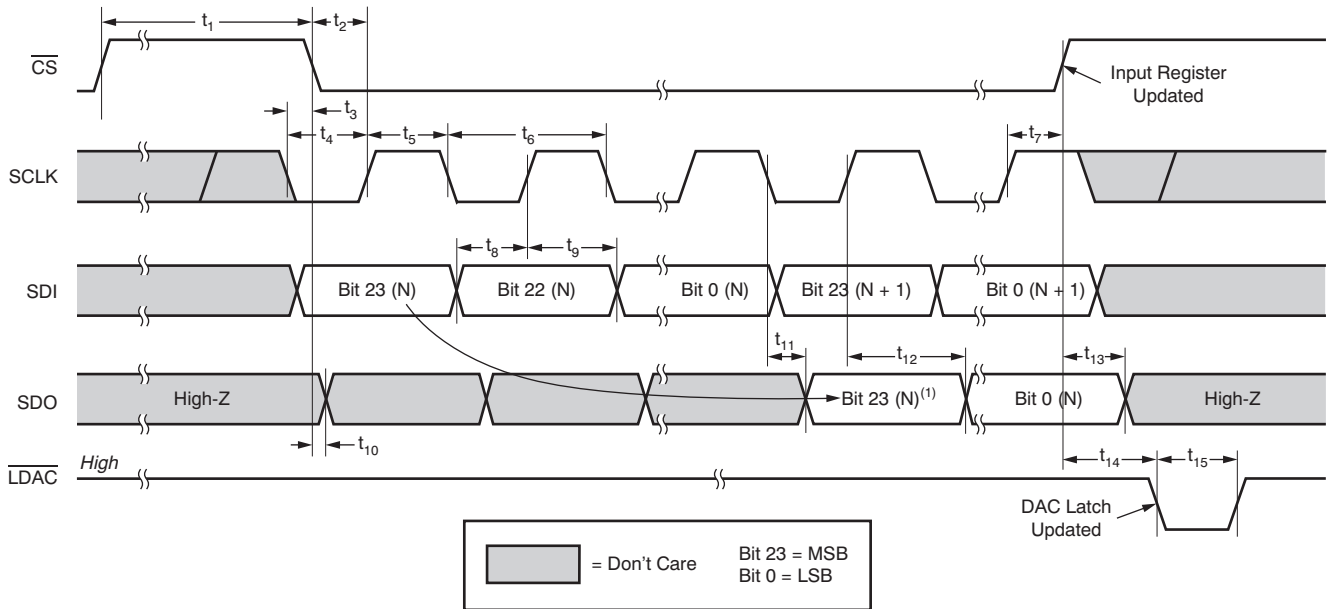

**Figure 2. Timing Diagram for Standalone Operation With SDO**
at  $-40^{\circ}\text{C}$  to  $+105^{\circ}\text{C}$  (unless otherwise noted); see Figure 2 and Figure 3 (1)(2)(3)